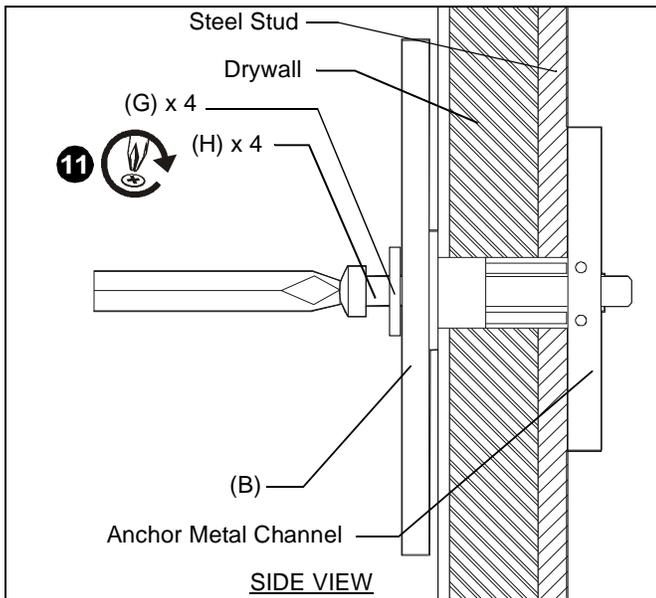

Figure 9
10. Place wall bracket over anchors and align mounting holes in mounting bracket with holes in anchors. (See Figure 9)
11. Insert 1/4-20 x 1-3/4" Phillips pan head screws (H) through 1/4" washer (G), corresponding mounting hole on mounting bracket (B) and into anchor (J) and tighten until flush against mount. DO NOT overtighten! (See Figure 9)